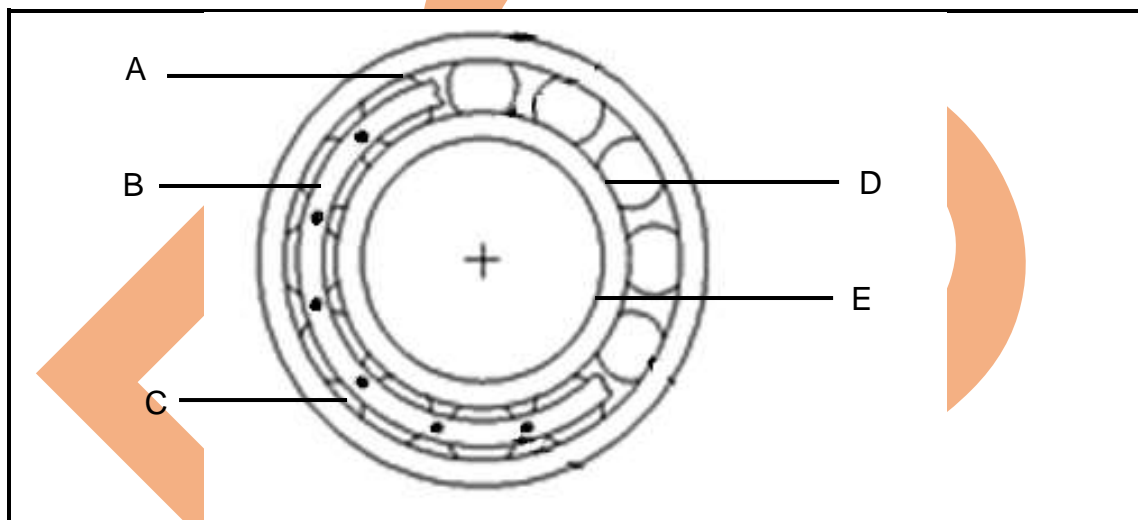

FIGURE 4
3.2 Refer to FIGURE 4 of an anti-friction bearing and label the parts (A–E).